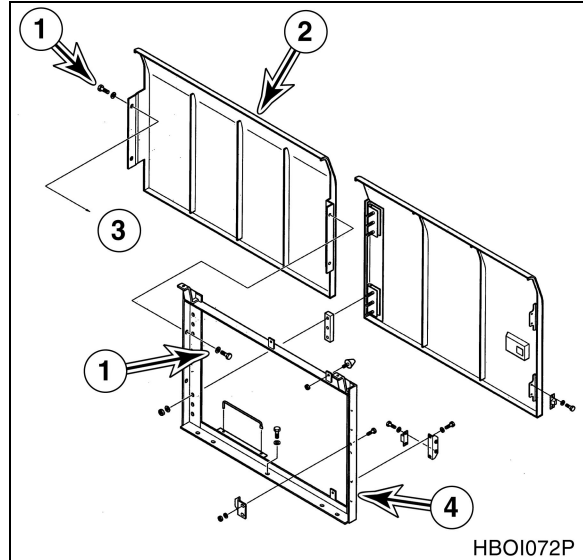

Figure 10
16. Remove four bolts and washers (1, Figure 10) and cover (2) from fuel tank (3) and support (4).